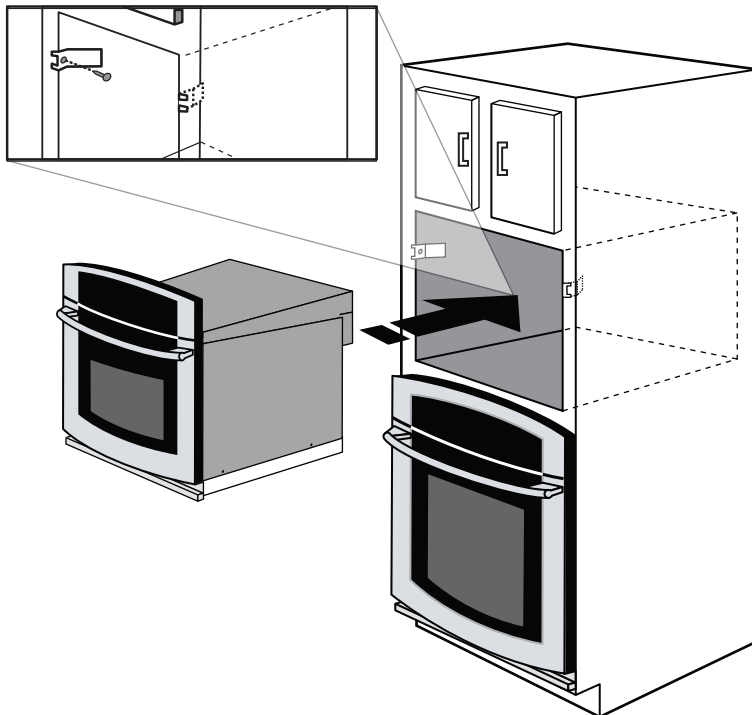

Figure 4
- Place the oven adjacent to the opening on a table or stand. Plug the power supply cord into the electrical outlet. Carefully guide the oven into the prepared opening. Avoid pinching cord between oven and wall. See Figure 4. Push the unit in and against the cabinet. The oven side bracket will clip into the Anti-Tip brackets. See Figure 3.